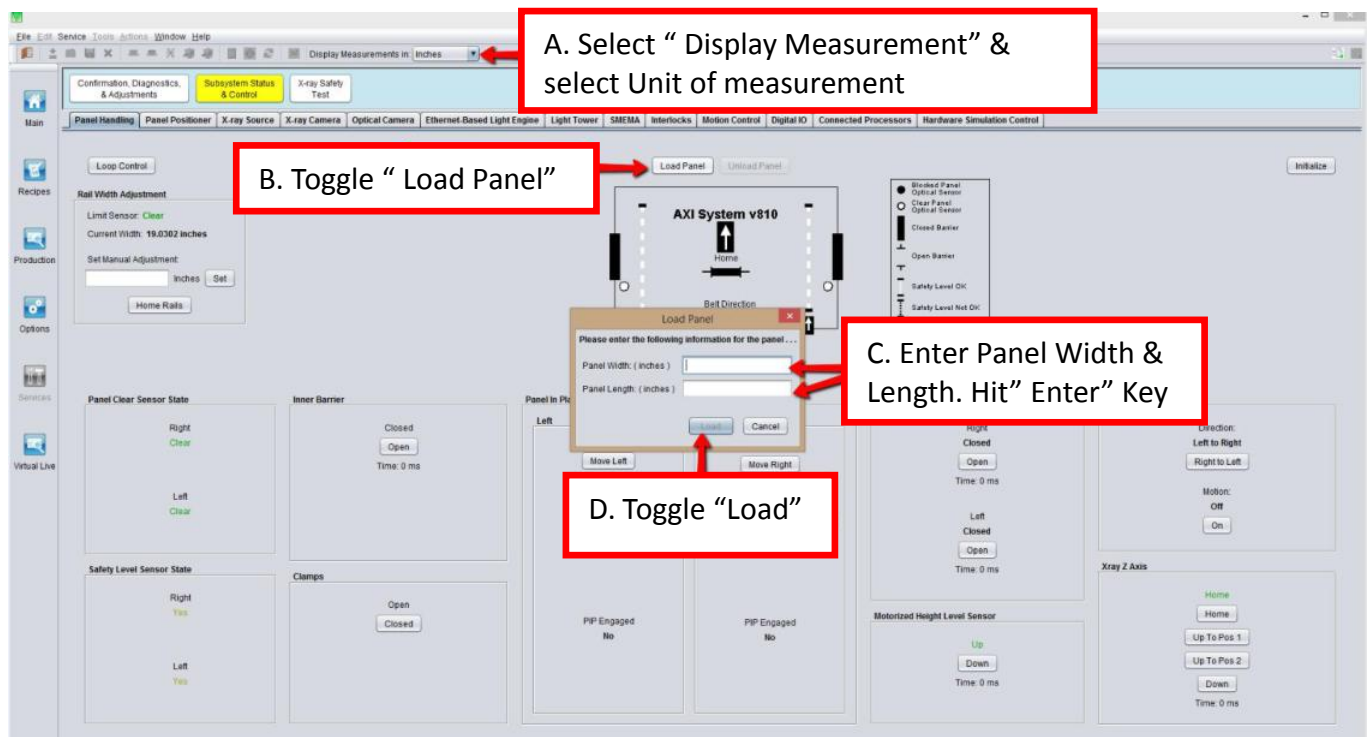

Figure 38 Panel Handling
15. Set the parameters as shown in the Figure 38 and click Load Panel.